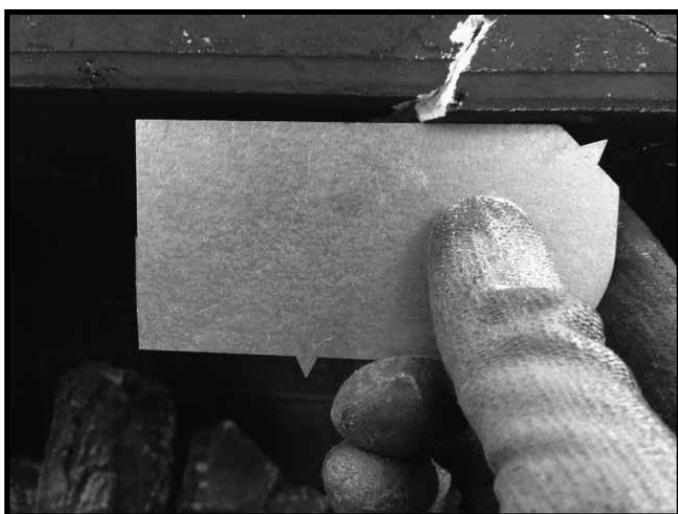

Figure 8.1 Surface plane of firebox is comprised and should be replaced.
- Cracks compromising the surface plane of the firebox. See Figure 8.1.